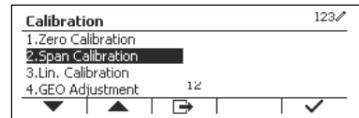

Figure 7
5. Exit Zero Calibration by pressing the softkey corresponding to the **✓** icon. (See Figure 7)